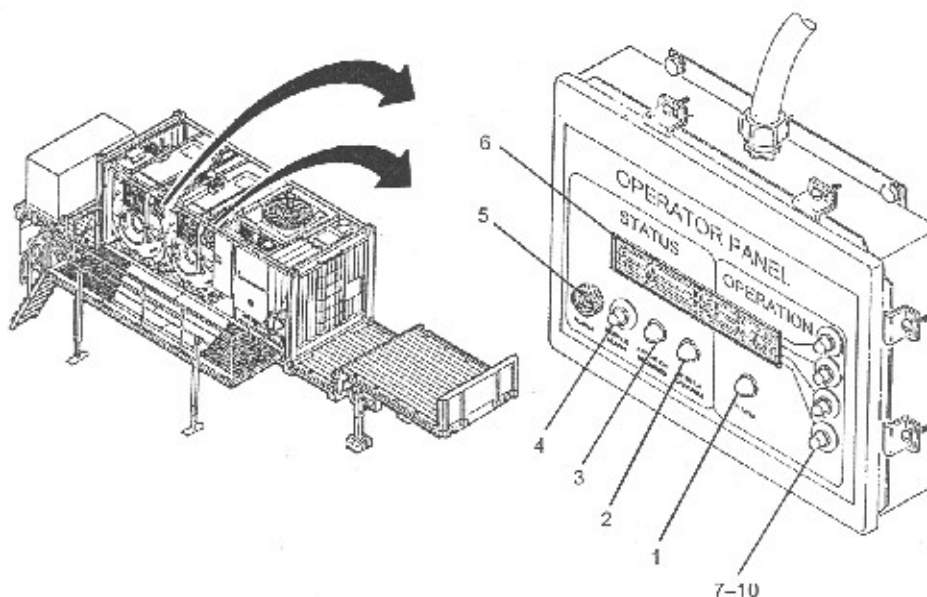

Figure 3-33
- b. **MAIN CONTROL ENCLOSURE CONTROLS AND INDICATOR. OPERATOR PANEL CONTROLS AND INDICATORS.** Two operator panels are used on LADS. Operator panel A is used to operate washing/drying system A. Maintenance personnel also use operator panel A to control, monitor, and test LADS operation. Operator panel B is used only to operate washing/drying system B. Below Figure shows the location of the controls and indicators found on the operator panels. Below describes the use of these controls: (See Figure 3-33)